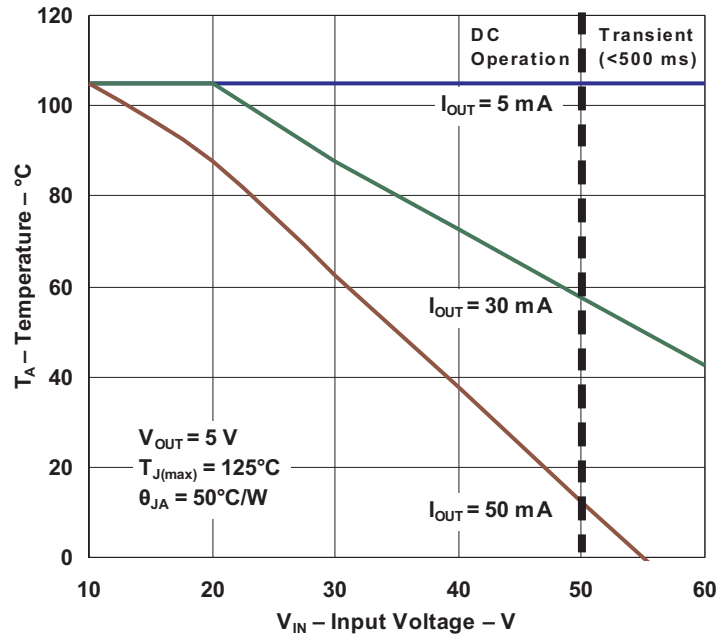

Figure 1. Safe Operating Area
- (1) Stresses beyond those listed under *Absolute Maximum Ratings* may cause permanent damage to the device. These are stress ratings only, and functional operation of the device at these or any other conditions beyond those indicated is not implied. Exposure to absolute-maximum-rated conditions for extended periods may affect device reliability.
- (2) Transient: 500 ms for V_{IN} > 50 V
- (3) The thermal data is based on using JEDEC 51-5. The copper pad is soldered to the thermal land pattern and using 5 by 8 thermal array (vias). Correct attachment procedure must be incorporated.
- (4) The thermal data is based on using JEDEC 51-7. The copper pad is soldered to the thermal land. No thermal vias. Correct attachment procedure must be incorporated.
- (5) The junction temperature must not exceed 125°C. See Figure 1 to determine the maximum ambient operating temperature versus the supply voltage and load current. The safe operating area curves assume a 50°C/W thermal impedance and may need to be adjusted to match actual system thermal performance.